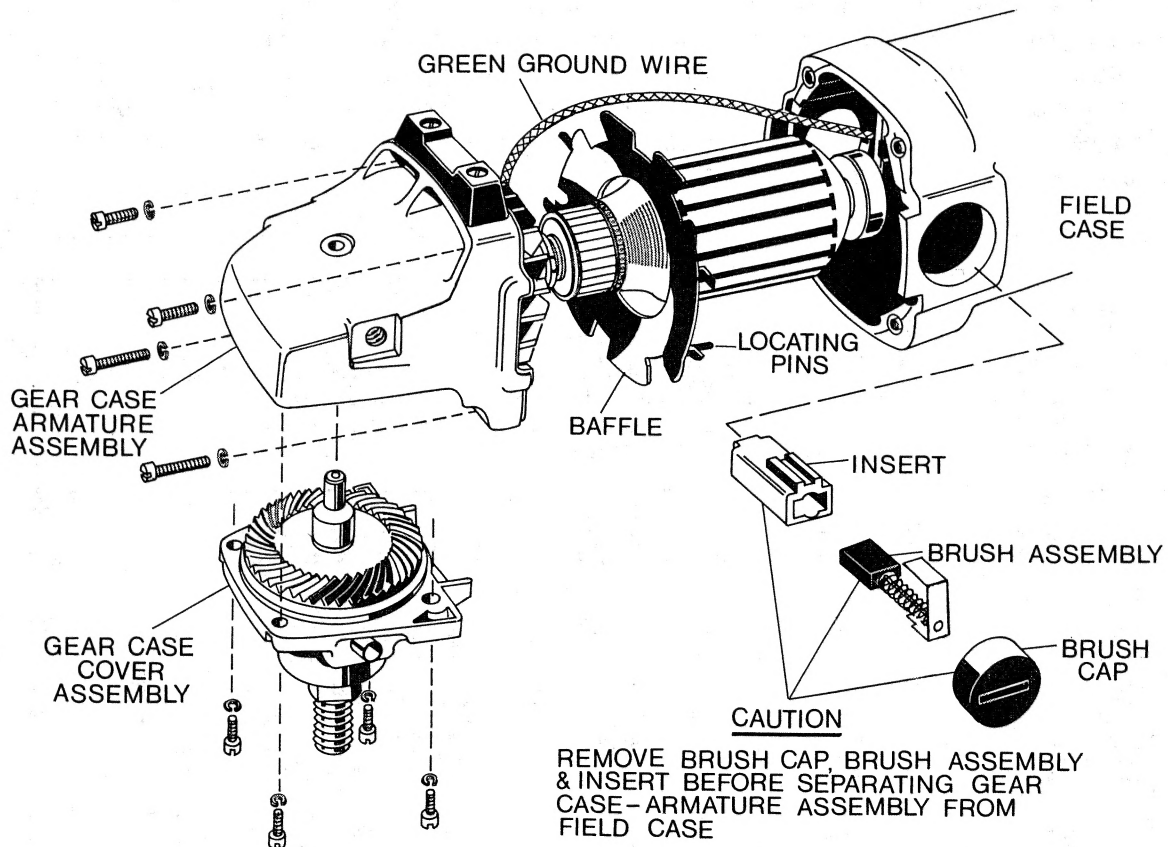

Figure 16
See Figure 16
- 3) Remove Brush Caps, Brush Assemblies and Brass Inserts. (See Figure 16).
- 4) Remove the (4) screws holding the Gear Case-Armature Assembly to the Field Case.